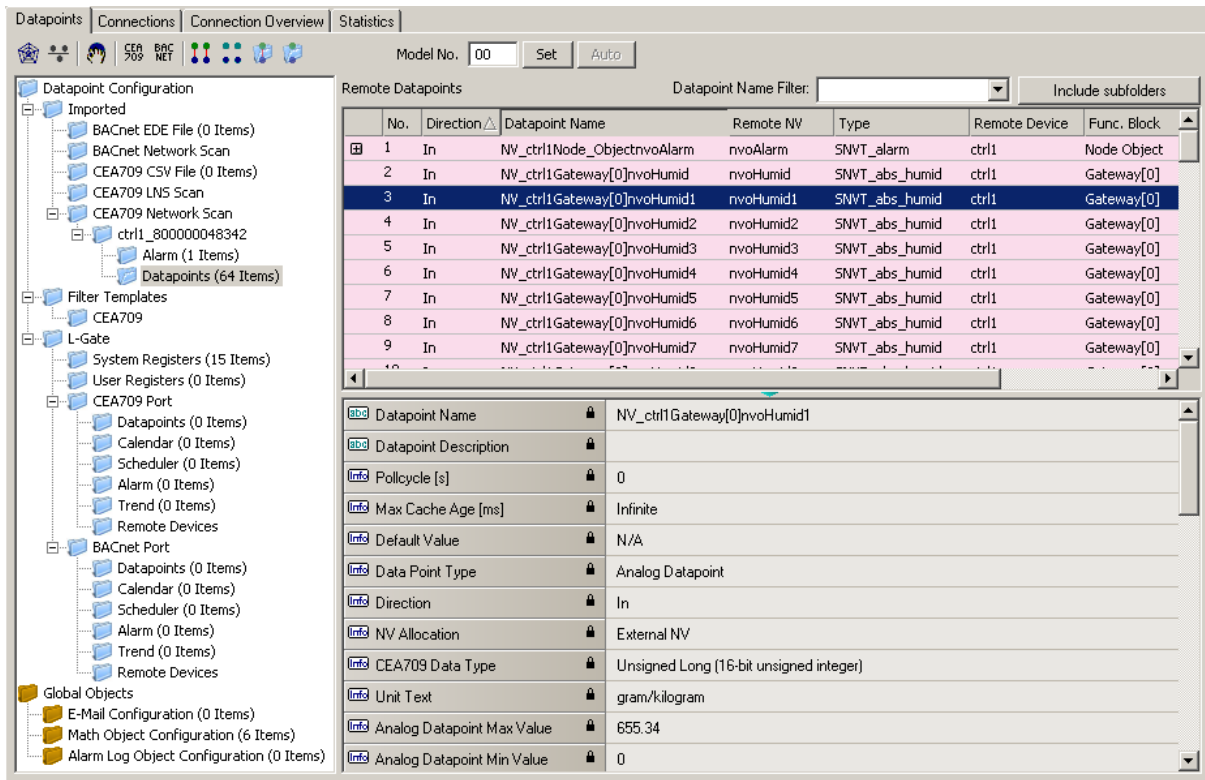

Figure 77: CEA-709 network scan results.
8. Then click the button **Scan**. This scans the NVs on the selected device and adds them to the CEA709/852 Network Scan folder as a separate sub-folder for the device as shown in Figure 77.